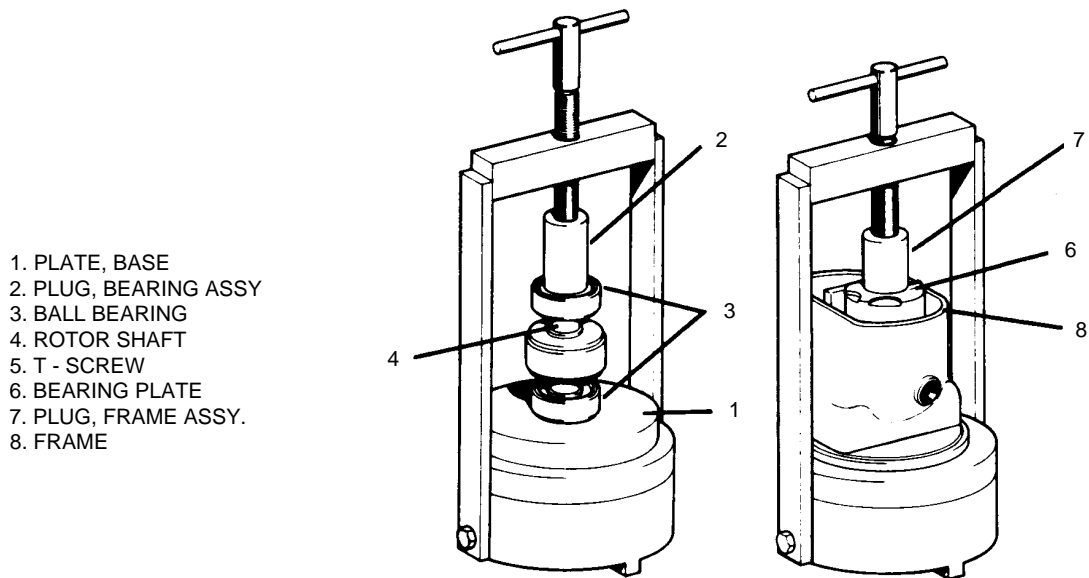

Figure 8-11 Installation of Bearings and Bearing Plate
- f. Insert the baseplate (T-117) and the adapter plate bushing (T-119) into the base of the T-100 assembly and timing tool. Assemble both ball bearings on the rotor shaft, making sure the grease shield of each bearing is toward the magnet. Place the rotor shaft into the base plate, threaded end down. (See Figure 8-11 .) Using bearing assembly plug (T-101), turn the T-screw down until both bearings are seated tightly against the shoulder on the rotor shaft. Remove the base plate (T-117) and adapter plate bushing (T-119).
- i. Using rotor and frame assembling plug (T-102), turn the T-screw down until the plate bottoms in the frame. (Refer to Figure 8-11.) Install bearing plate clamp on bearing plate and install screw and lockwasher. Torque to 20-24 in. lbs.